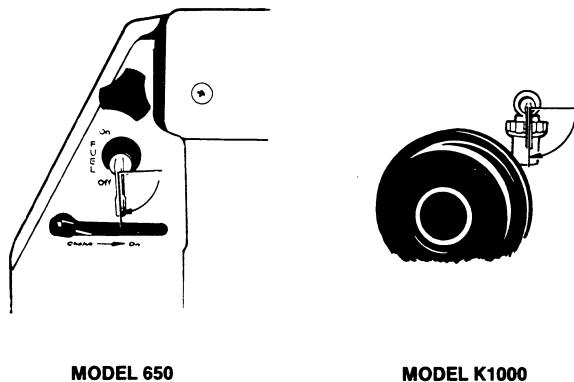

FIGURE 3. OPENING THE FUEL VALVE
1. Open the fuel valve (Figure 3).